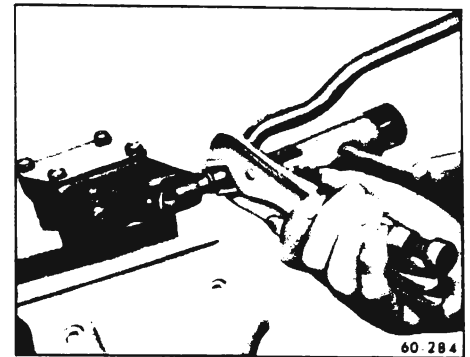

Figure 60-150 - Installing Pickup Screen and Pipe Assembly
1. If the pickup screen and pipe assembly was removed, mount the pump in a soft-jawed vise, apply sealer to end of pipe and tap pipe in place. See Figure 60-150.